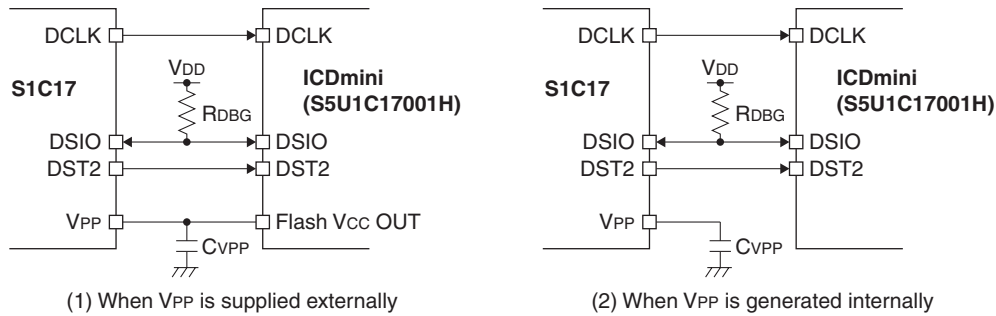

Figure 4.3.3.1 External Connection
The Flash memory supports on-board programming, so it can be programmed with the ROM data by using the debugger through an ICDmini. Figure 4.3.3.1 shows connection diagrams for on-board programming.
When reprogramming the EEPROM, the EEPROM controller (EEPROMC) uses the VPP voltage generated internally. Connect CVPP to the VPP pin as shown in “(2) When VPP is generated internally” of Figure 4.3.3.1. The notes described in Section 4.3.3 are also applied to EEPROM reprogramming.